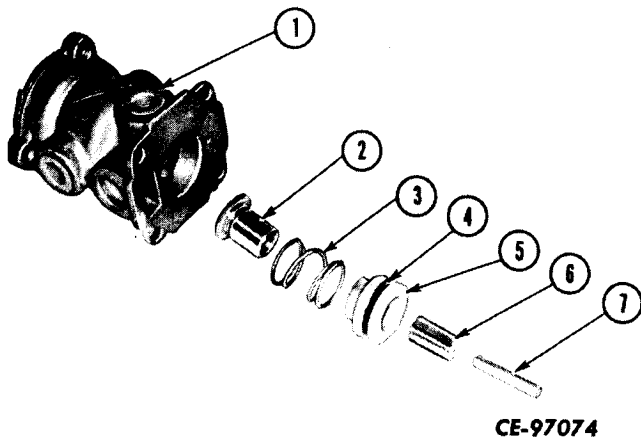

Figure 13-36
Having removed and separated push rod (7, Fig. 13-36) and push rod guide (6), remove primary inlet valve guide (5) from upper valve body (1). Discard seal (4) from outer groove of valve guide (5) and packing from inner groove. Separate primary inlet spring (3) and valve (2).